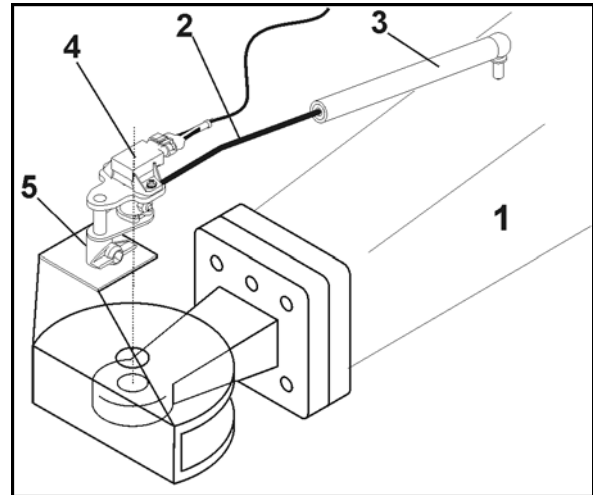

Fig. 45
AutoTrail tracking control for automatic, virtually 100% precise tracking captures the position of the angle of the drawbar (Fig. 45/1) to determine the direction of travel of the tractor.
1. Insert the rod (Fig. 45/2) into the plastic bush (Fig. 45/3) stecken.
2. Insert the position encoder (Fig. 45/4) into the holder (Fig. 45/5).